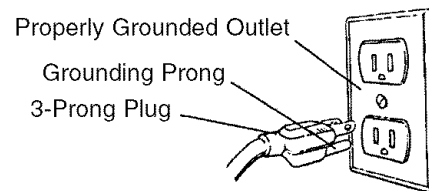

Figure 1 - 3-Prong Receptacle
Refer to Figures 1 and 2.
- This tool is equipped with an approved 3-conductor cord rated at 150V and a 3-prong grounding type plug (Figure 1) for your protection against shock hazards.
- Grounding plug should be plugged directly into a properly installed and grounded 3-prong grounding-type receptacle, as shown (Figure 1).